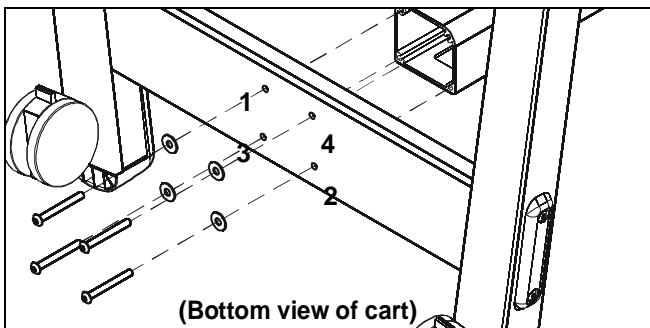

Figure 2
NOTE: Insert and turn screws in order shown (1, 2, 3, 4) in Figure 2.
2. Attach center post (E) to leg assembly using four 5/16-18 x 2-3/4" button head cap screws (M) and four 5/16" washers (P). (See Figures 2 and 3)